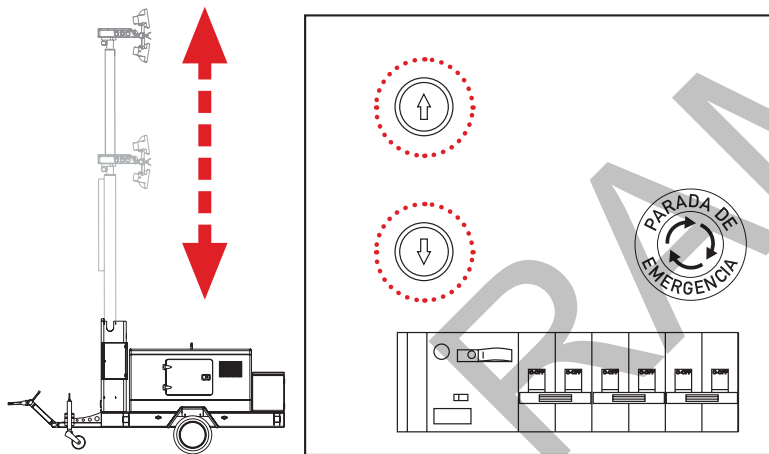

Fig.1
- **Mast start control:** It allows the control of the mast through two simple maneuver press buttons located at the waterproof and maneuvering shelter (Fig. 1). Before moving the mast, it is necessary to start the electrical engine as described previously. Moreover, it is crucial to anchor and level out the tower with the extensible side legs. The maneuver press buttons only allows safe movements of the mast. This means that you will not be allowed to spread out the mast until the mast is not completely perpendicular to the floor. Therefore you will not be allowed to pull the mast down until the every section is not already cleared. The top button controls the slope angle regarding the horizontal (0° transport position, 90° working position), and the mast raising from its vertical startign position up to 8.9 meters.
To switch on the spotlights, it was enough with connecting the main switch (Fig. 1) located inside the tight closet of control and it maneuvers (Fig. 2), next to work the three switches next to the main one that they light the focuses s.